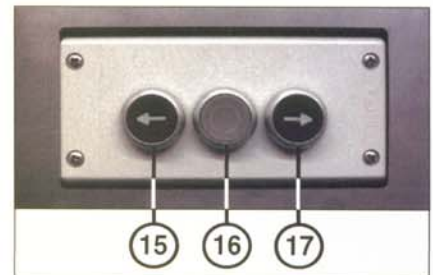

fig. 8
15 = „Advance Ram“ Key (compacting cycle) (fig. 8)
16 = „Stop Ram“ or „Open Discharge Flap“ Key (fig. 8)
17 = „Return Ram“ Key (return stroke) (fig. 8)
Non-confidential materials can also be fed manually to the baler. Return the baling ram to its rear, home position if necessary (close the inlet flap and press the "Return Ram" key (17) (fig. 8)) and proceed as follows:
3. Close the inlet flap and activate the "Advance Ram" Key (15) (fig. 8).